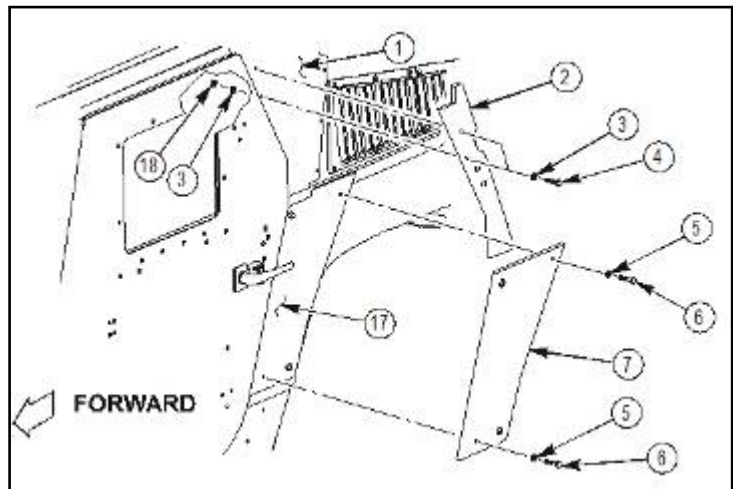

Figure 3a.
1. Remove two locknuts (18), four washers (3), two capscrews (4), and upper C-pillar panel aluminum overlay (2) from C-pillar armor (1) as shown in figure 3a. Discard all parts, including any old shims located behind upper C-pillar armor (1).
- C. Remove two capscrews (6), washers (5), and C-pillar panel aluminum overlay (7) from left side lower C-pillar armor (17) as shown in figure 3a. Discard all parts.